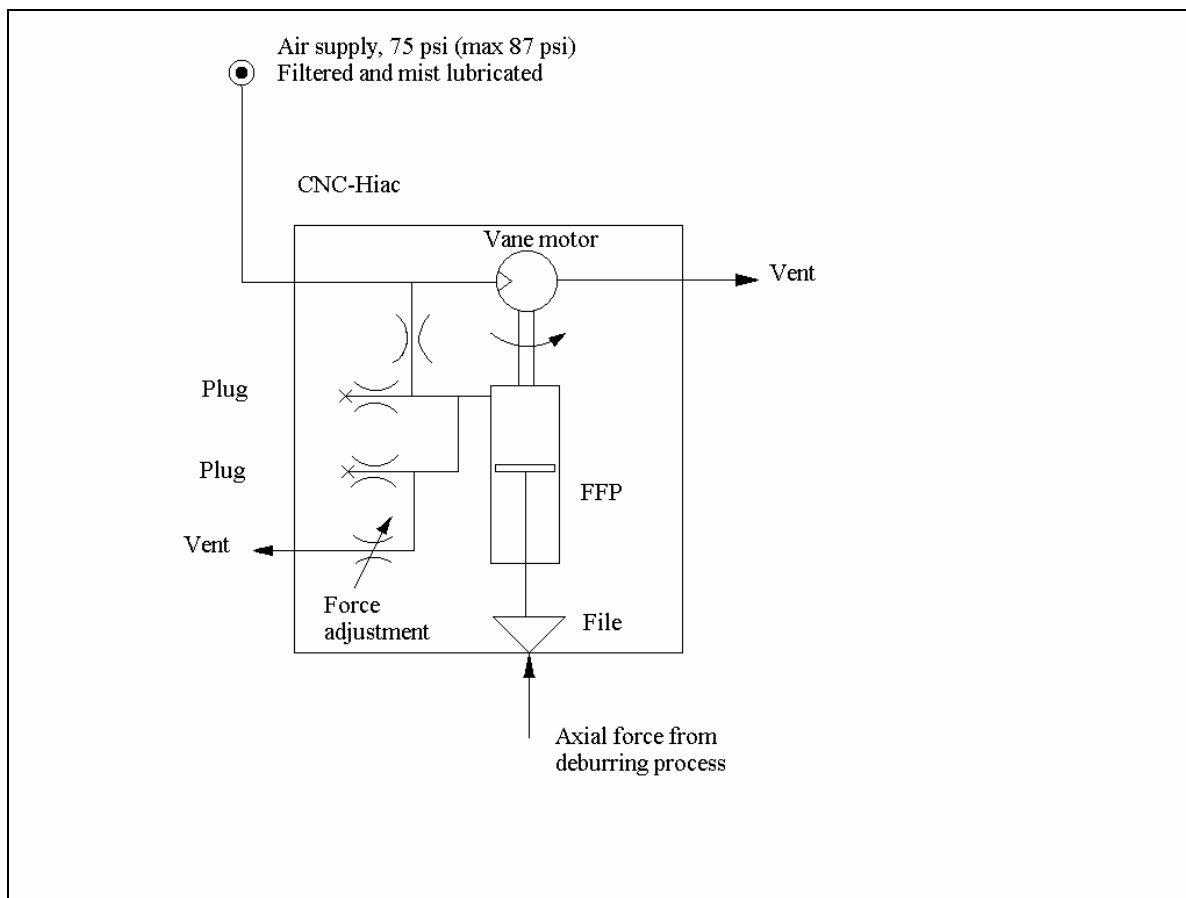

Figure 4.4—Schematic Diagram
6.2 Pneumatic Connections—Recommended (see Figure 4.4)